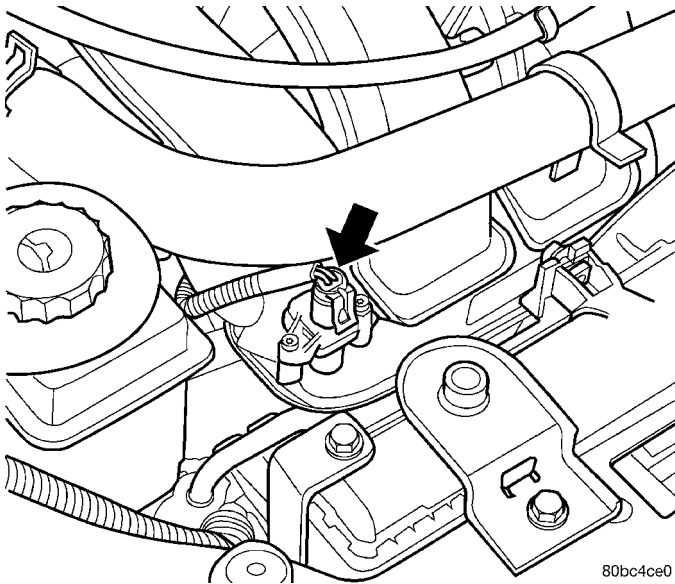
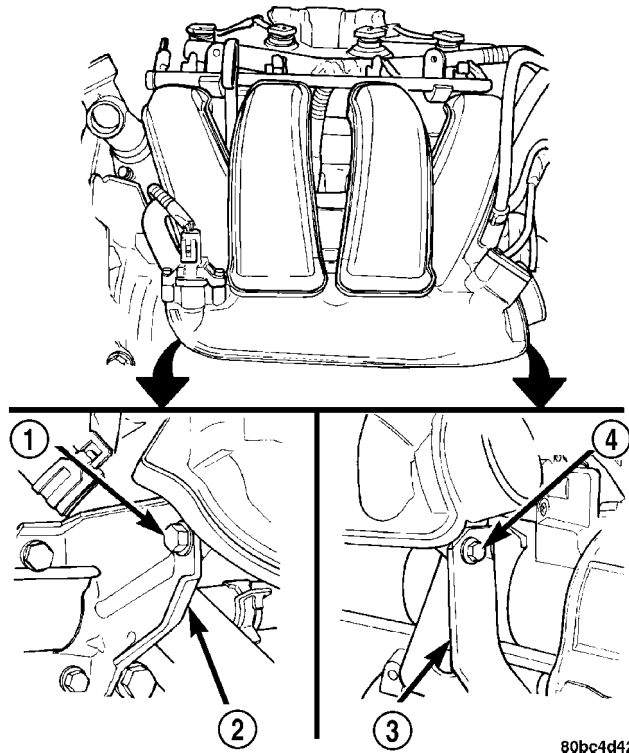

Fig. 131 MAP Sensor
Fig. 133 Intake Manifold Lower Supports
- (7) Disconnect Manifold Absolute Pressure (MAP) sensor electrical connector (Fig. 131).
- (9) Disconnect wiring at starter.
(10) Remove the intake manifold to lower support bracket bolts (Fig. 133).
(11) Remove intake manifold screws and washers. Discard the fasteners. Remove intake manifold.
(2) Install intake manifold to lower support bracket bolts (Fig. 133). Tighten bolts to 11 N·m (95 in. lbs.).
(3) Remove covering from fuel injector holes and insure the holes are clean. Install fuel rail assembly to intake manifold. Tighten screws to 23 N·m (200 in. lbs.).
(4) Connect PCV and brake booster hoses.
(5) Inspect quick connect fittings for damage, replace if necessary (Refer to 14 - FUEL SYSTEM/FUEL DELIVERY/QUICK CONNECT FITTING - STANDARD PROCEDURE). Apply a light amount of clean engine oil to fuel inlet tube. Connect fuel supply hose to fuel rail assembly. Check connection by pulling on connector to insure it locked into position.
(6) Connect Manifold Absolute Pressure (MAP) Sensor wiring connector (Fig. 131).
(7) Connect knock sensor connector, and wiring at starter.
(8) Install inlet air duct to intake manifold and throttle body. Tighten clamp to 3 N·m (30 in. lbs.).
(9) Connect negative cable to battery.
(10) With the DRB scan tool use ASD Fuel System Test to pressurize system to check for leaks.